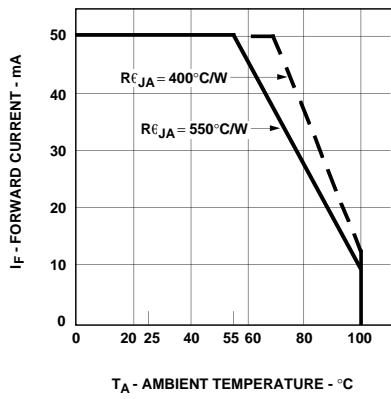

Figure 5. Maximum Forward DC Current vs. Ambient Temperature. Derating Based on TJMAX = 110°C.
3. Derate linearly as shown in Figure 5.